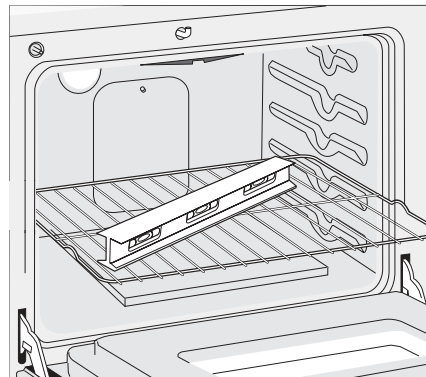
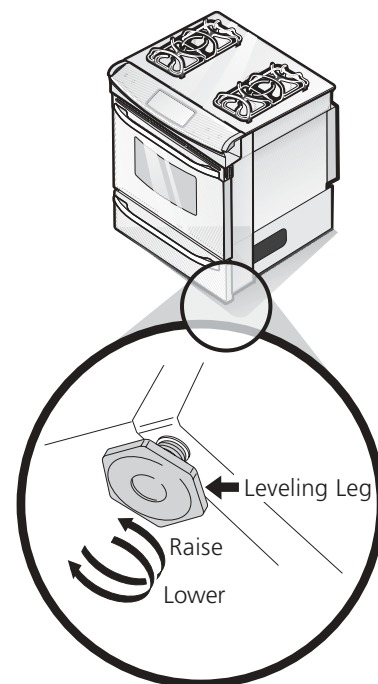

Figure 13
Figure 15
2. Place a level on the rack (see figure 13). Take 2 readings with the level placed diagonally in one direction and then the other. Level the range, if necessary, by adjusting the 4 leg levelers with a wrench (see figure 15).